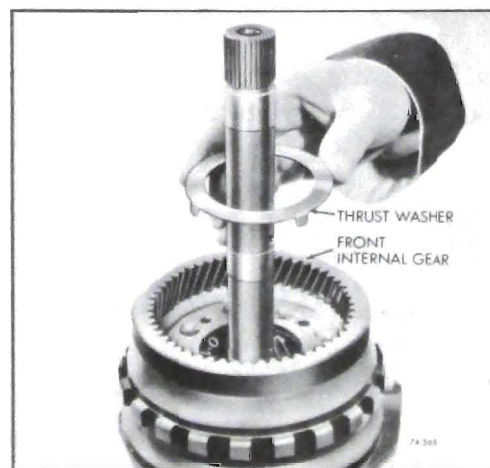

Figure 76-565
7. Remove reaction carrier to output carrier thrust washer. See Figure 76-565.